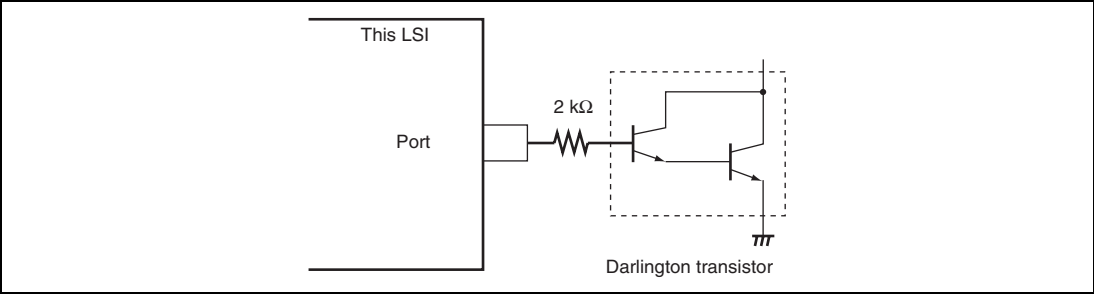

Figure 26.1 Darlington Transistor Drive Circuit (Example)
2. When driving a Darlington transistor or LED, always insert a current-limiting resistor in the output line, as show in figures 26.1 and 26.2.